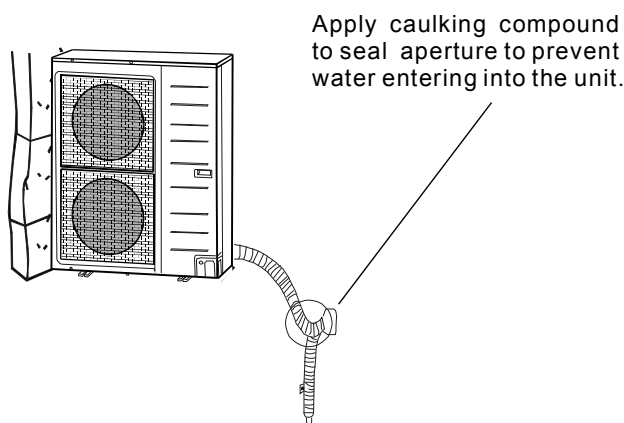

Fig 23
- 2.Secure the piping onto the wall and bend the piping to prevent rain from entering into room. (Ensure the lowest part of the piping is lower than the wall opening to prevent rain entering) (Fig 23).